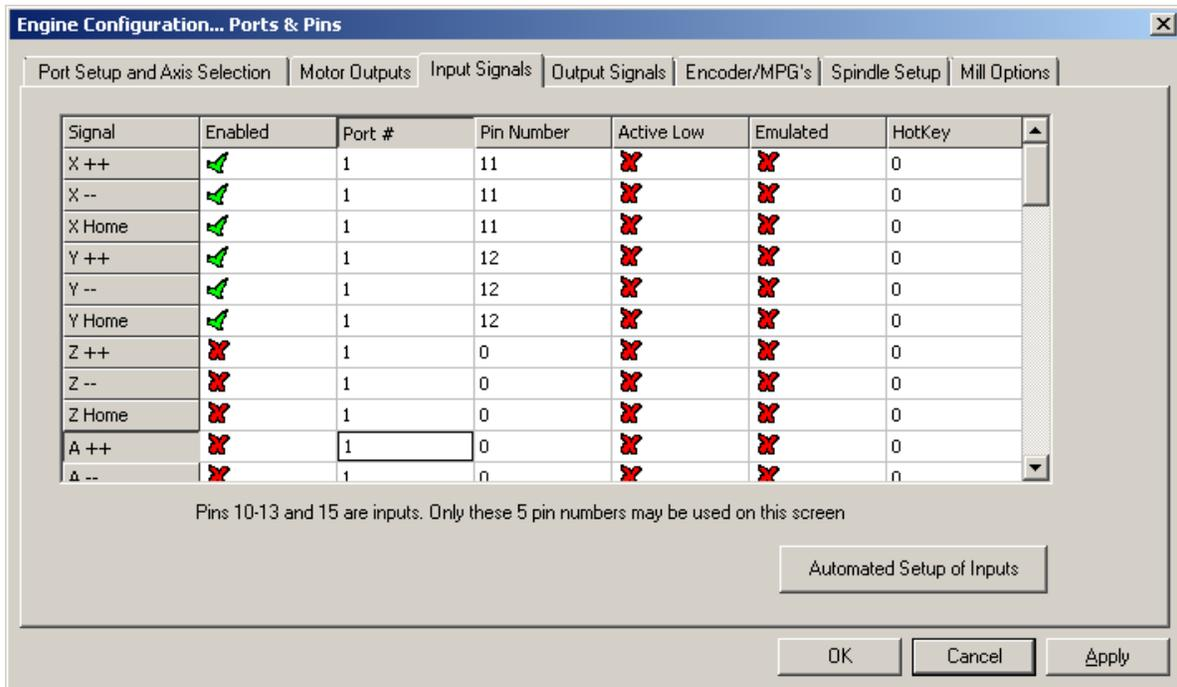

Figure 49 Input Signals
6. Click on the **Input Signals** tab (See Figure 49).
7. Enable your limit and home switches by clicking the red **"X"** by the signal. The input is enabled when there is a green check mark. X++ is the forward limit, X— is the backwards limit, and X Home is the homing switch (Figure 49).